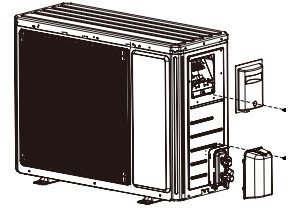

Fig.21
- (1) Remove the screw on the handle of outdoor unit and then remove the handle.(As show in Fig.21)